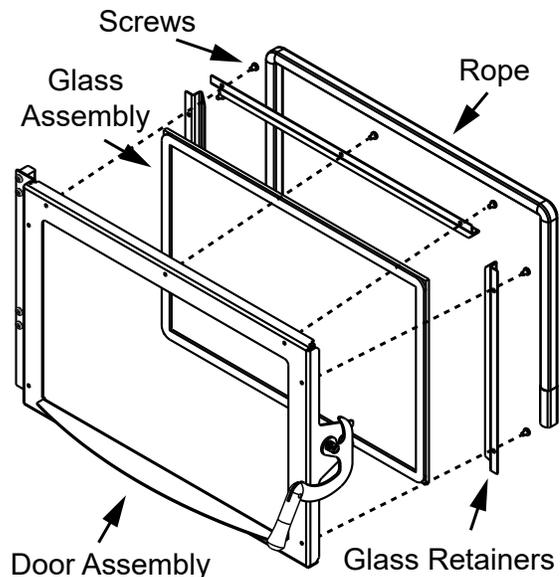

Figure 27.2
9. Add rope into crevice as shown below in **Figure 27.2**.